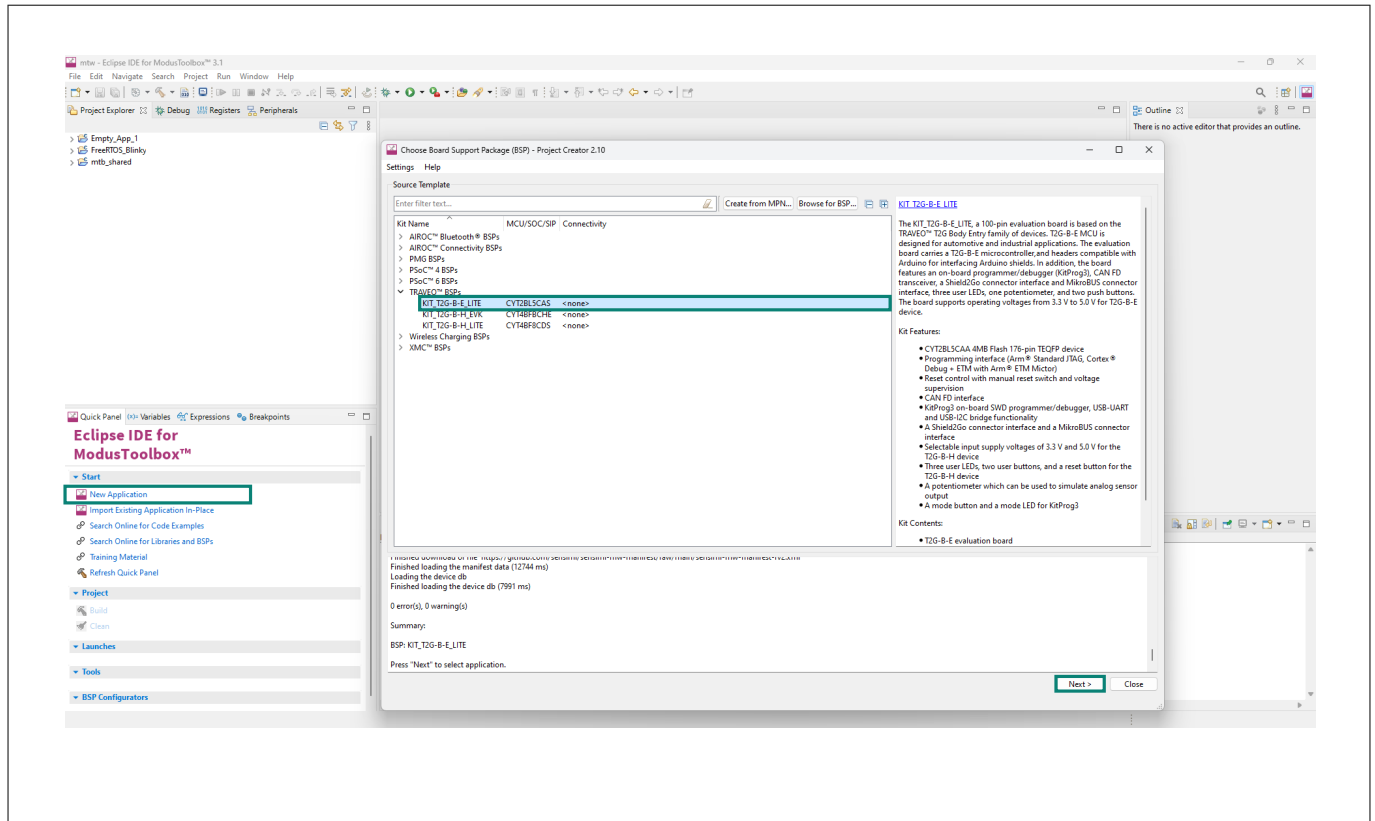

Figure 10 Selecting the TRAVEO™ T2G B-E Lite kit BSP
4. Once the loading is complete, click on the “TRAVEO™ BSPs” and select the “KIT_T2G-B-E_LITE” in the kit name, and then press “next” button (as shown in Figure 10)